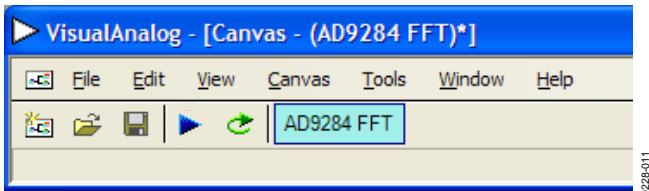

Figure 11. Run Button in VisualAnalog Toolbar, Collapsed Display
- Click the **Run** button in the **VisualAnalog** toolbar (see Figure 11).